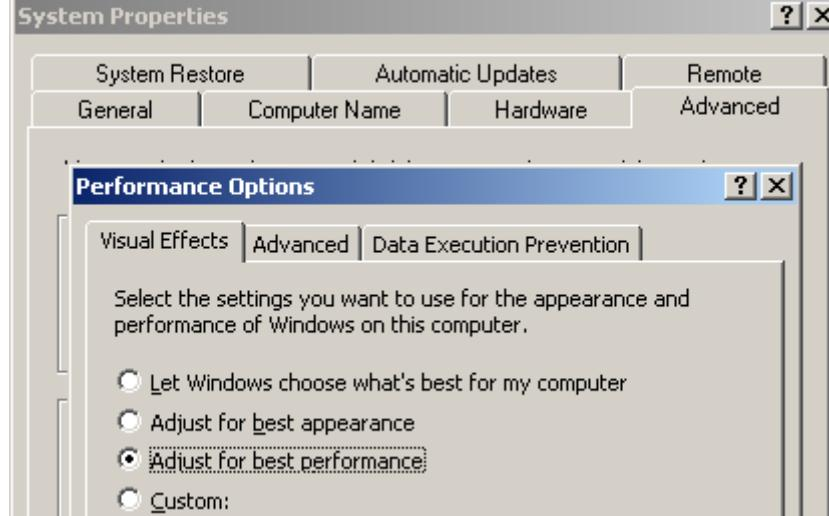

Figure 13.1: Adjust For Best Performance Option
A. One thing that can make a difference in how the PC is running is to ensure **Adjust for best performance** option is selected in the **Advanced** tab of the **System Properties** window, see Figure 13.1.